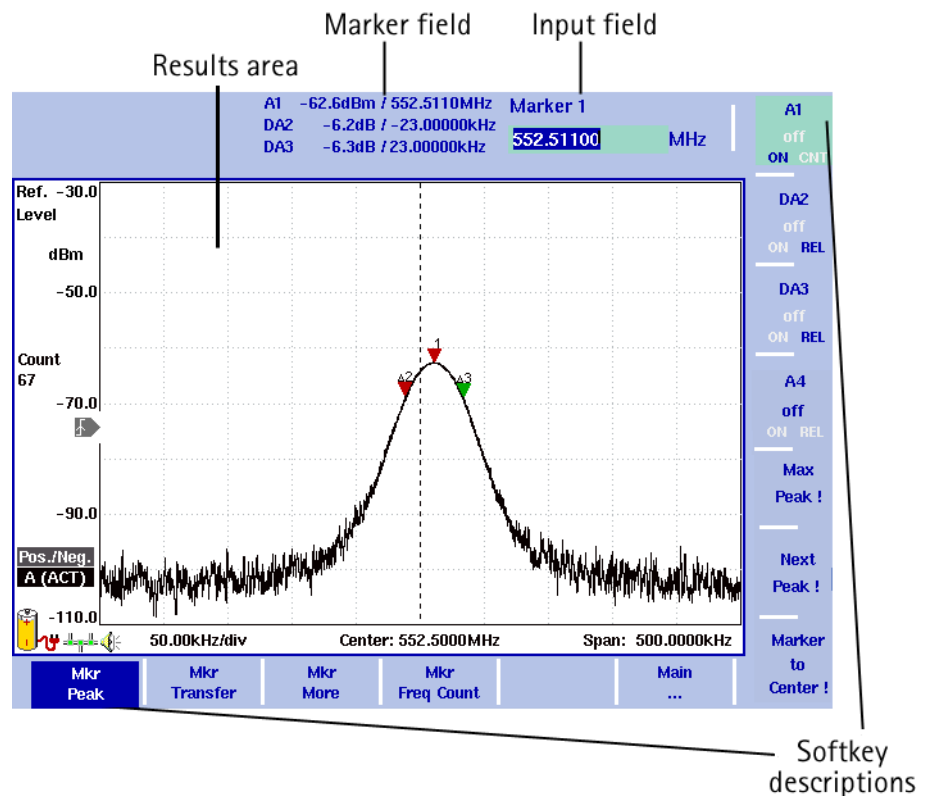

Figure 4 Display sections
**Display** The 6.5 inch display is divided into the following sections (see Figure 4):